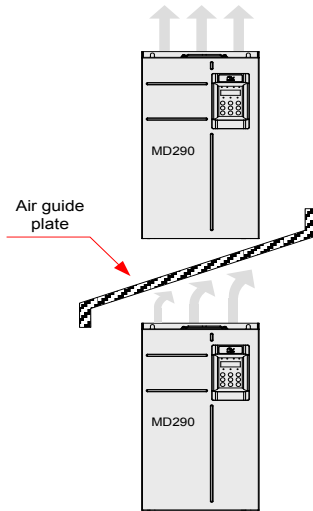

Figure 3-5 Installation of an air guide plate
- ◆ Mount the AC drive in an upright position for efficient heat dissipation. When installing several AC drives within a cabinet, line up the tops of the drives. Where an AC drive is required to be mounted directly above another AC drive, install an Air Guide Plate, as shown in Figure 3-5.